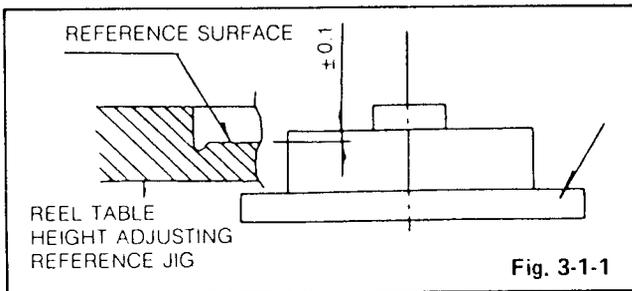

Fig. 3-1-1
- When changing the reel table, repeat the above stated adjustment items Fig. 3-1-1, 3-1-4.